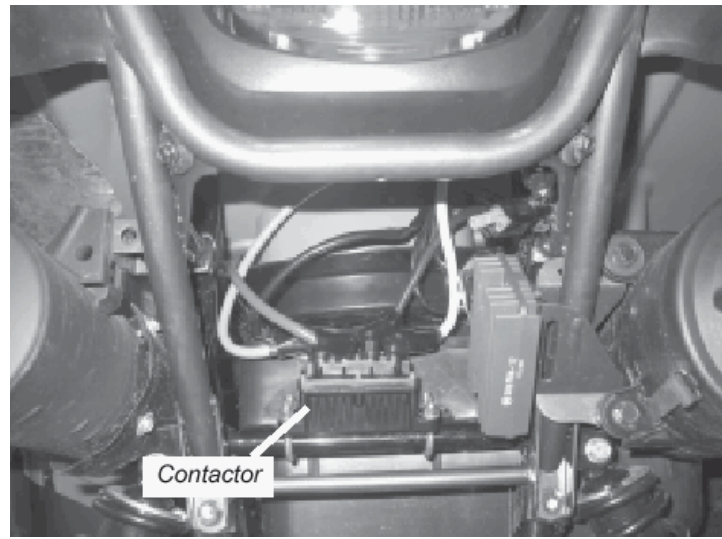

Figure 4 Contactor Location – Rear Cross Tube
1. Included with this kit are (2) ¼” U-bolts and hardware. These U-bolts can be used to fasten the Winch Contactor Block to the not required but recommended location. (Some winch contactors may not work with these U-bolts)
2. The recommended contactor location is on the back of the vehicle on the rear cross tube as shown in “Figure 4”. Secure contactor with the supplied ¼” U-bolts and nuts. Do not over tighten U-bolts, this may damage the contactor.